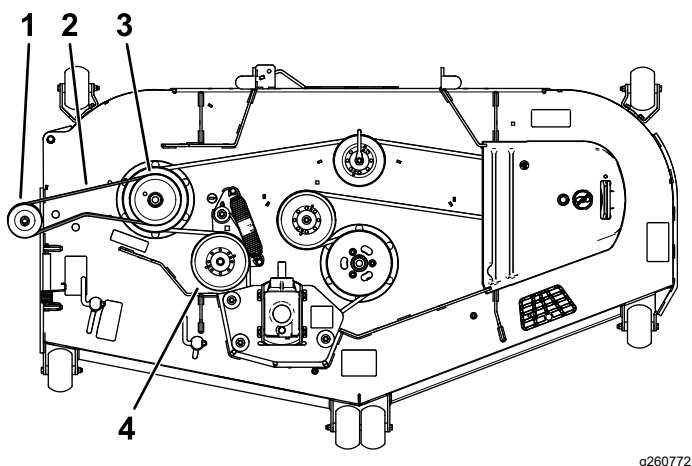

Figure 9
3. Pull the spring-loaded idler back and install the belt over the deck pulley assembly (Figure 9).